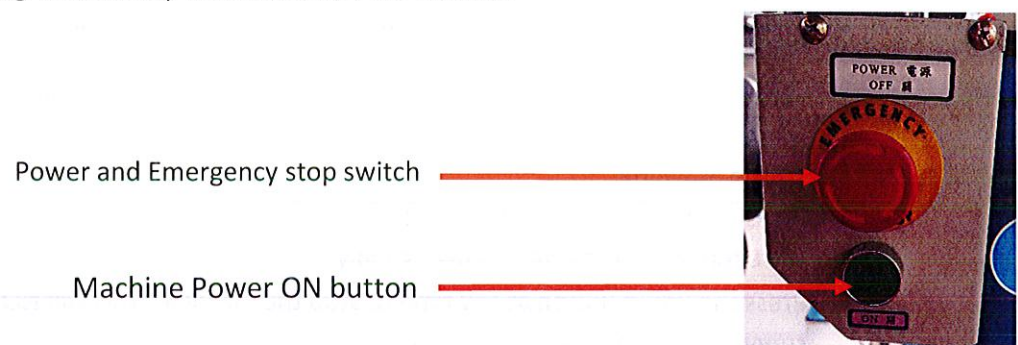

Figure 3: Power and start controls located below the computer control board
- Press the Power and Emergency Stop Switch (Figure 3) to stop the machine at any point. This **WILL** turn off the machine power supply.